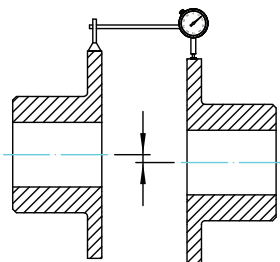

Figure 7 - Parallel Offset Misalignment (TIR) Measurement.
- 8.5. When Parallel Offset is measured by rotating the hubs in unison with dial indicators as shown in Figure 7, the total indicated reading (TIR) should be divided by (2) to calculate “P”.